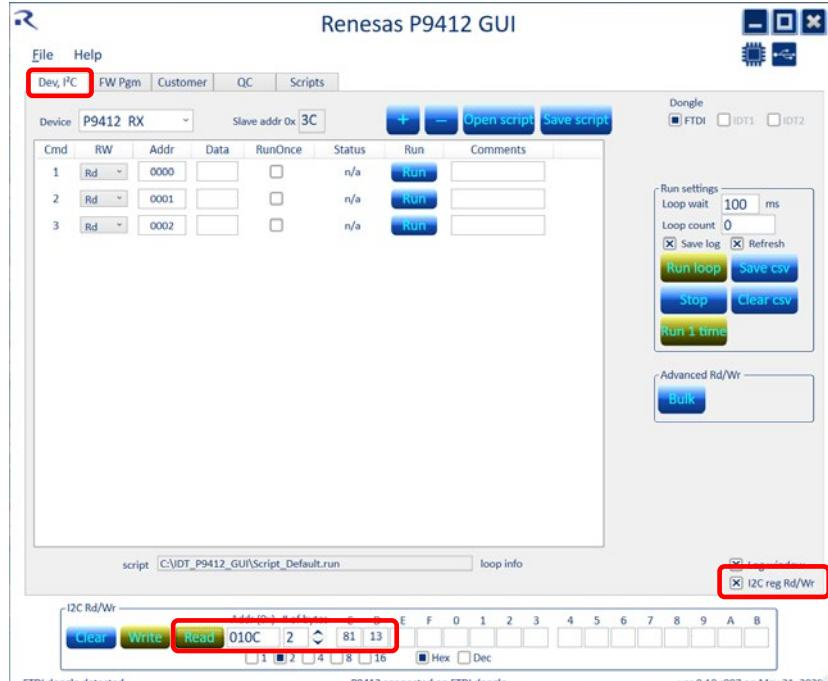

Figure 12. I²C Read / Write Registers
2. To read and write specific registers, select the “Dev, I2C” tab and click the “I2C reg Rd/Wr” box. The I2C Rd/Wr block will stay accessible when different tabs are selected (see Figure 12).